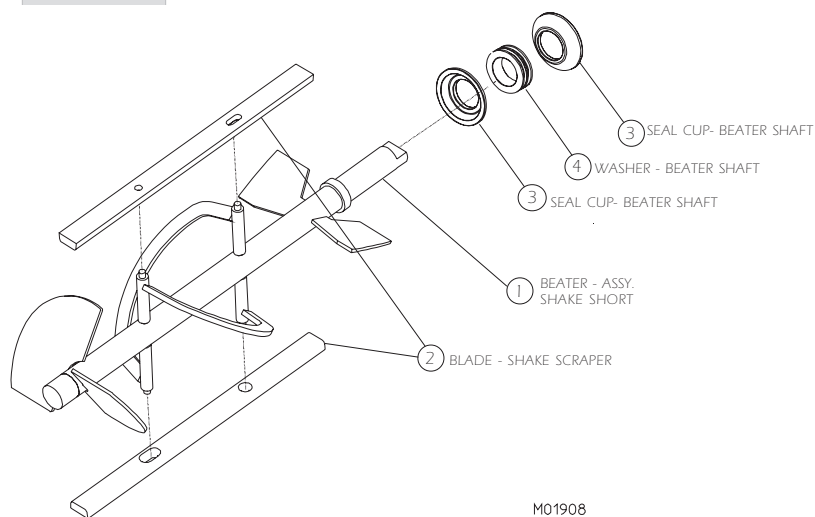

Figure 7-2 Beater Shaft Assembly
3. See figure 7-2. Install the shaft seal over the rear of the beater shaft. Wipe off excess lubricant from the beater shaft.